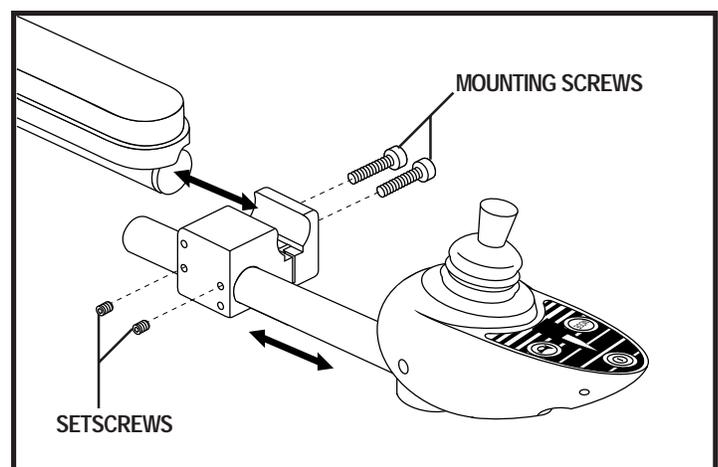

Figure 12. Controller Installation - Mounting Block
5. Install the controller into the mounting block or under the armrest. See figure 12 or 13.
**NOTE:** *If your power chair is equipped with a Synergy Seat or TRU-Balance Power Positioning System, loosen the mounting screws (see figure 12) and remove the mounting block from the armrest. Transfer the mounting block and controller to the opposite armrest and tighten the mounting screws to secure the controller in place.*